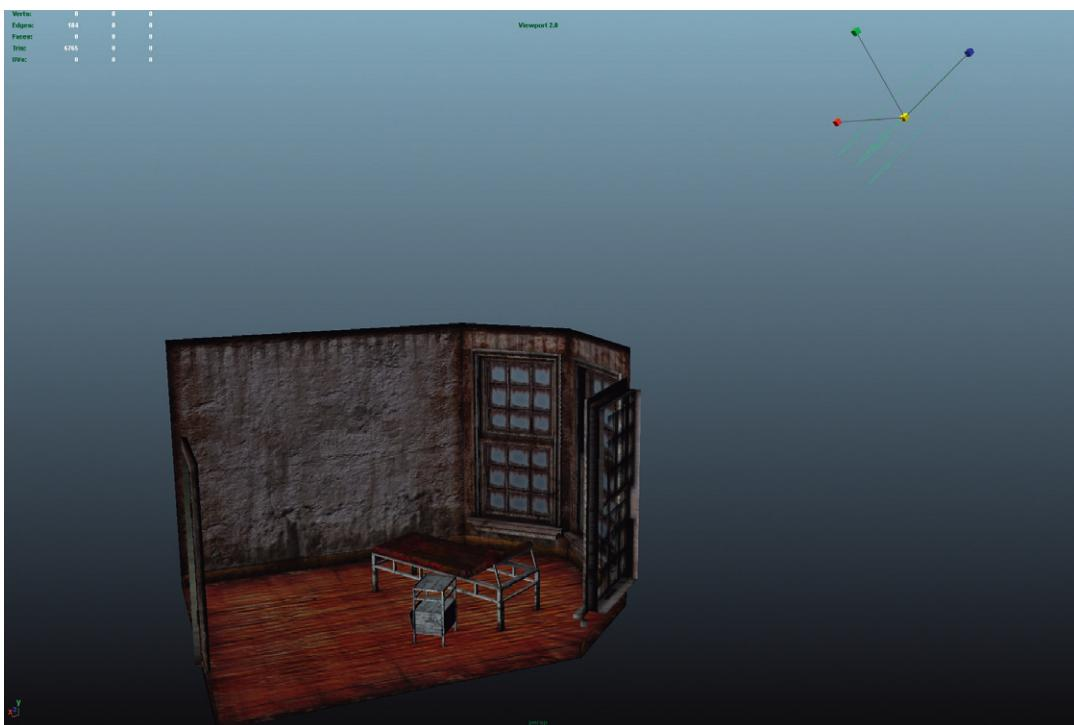

FIG. 7.21 Positioning, scaling, and rotating the Directional Light that will act as the sun.
Step 3: Move the Directional Light, so that it is outside of the window and aim it down so that it will shine through the windows (Fig. 7.21). Depending on the size of your scene, you may also need to scale the Directional Light (really just scaling the gizmo that represents the instrument). A render will yield a pretty unimpressive figure (Fig. 7.22).